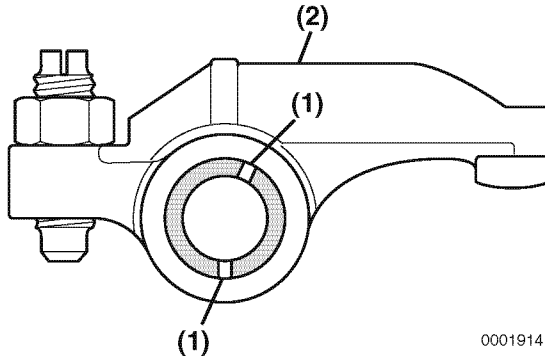

Figure 6-31
Ensure the lubrication holes in the rocker arm shaft (**Figure 6-31, (1)**) are oriented correctly with respect to the rocker arms (**Figure 6-31, (2)**).